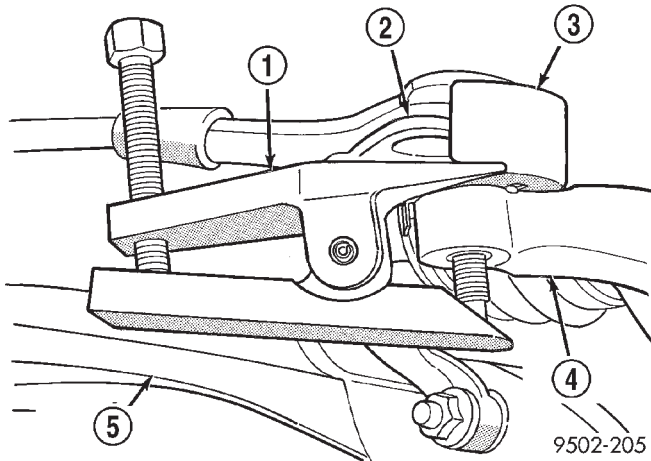

Fig. 18 Tie Rod End Removal From Steering Knuckle
(9) Remove the tie rod end from the steering knuckle using Remover, Special Tool MB-991113 (Fig. 18).